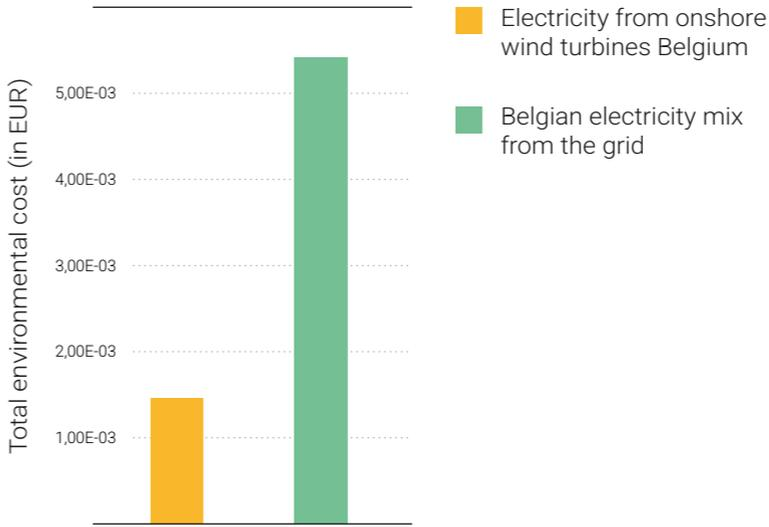

Figure 11: Environmental impact comparison between different electricity sources (based on MMG method)
- Could certain production parameters be modified? For instance, could you alter the source of electricity or fuel (e.g., renewable energy instead of fossil fuels), or improve internal recycling of production waste, etc.? Figure 11 below demonstrates how different energy consumption can radically impact the environmental costs.